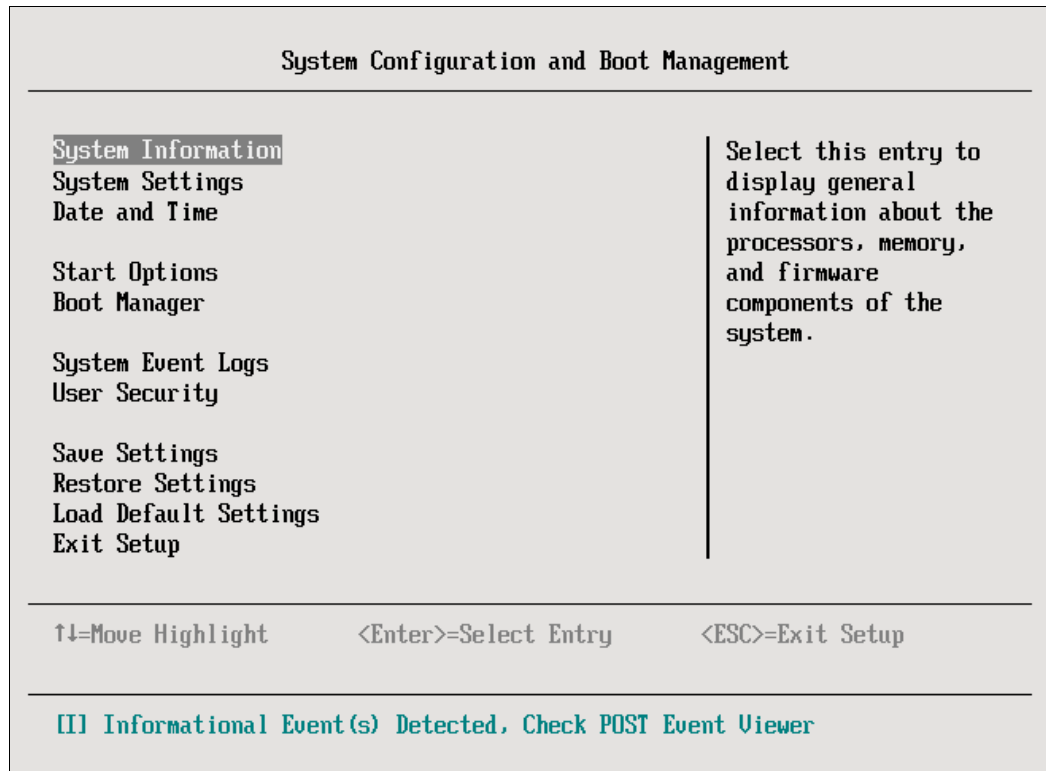

Figure 2-22 System Configuration and Boot Management window
1. When prompted, press **F1** during the system boot process. A System Configuration and Boot Management menu opens that is similar to the menu shown in Figure 2-22.